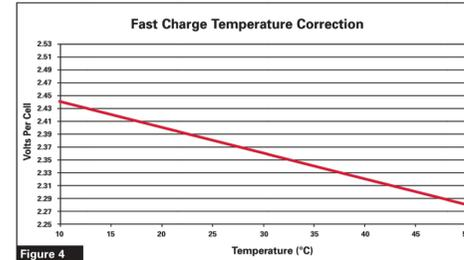

Figure 4
2) Where time formula recharge is used, temperature compensation for charge voltage should be applied at the rates shown in figure 4.